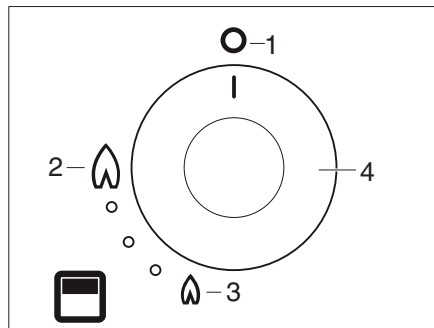

Fig. 119 Control knob of the grill
- ▶ Open the door and push the control knob (Fig. 119,4).
- ▶ Continue pressing the control knob and turn it anti-clockwise to the full rate position (Fig. 119,2).
- ▶ Keep the control knob (Fig. 119,4) pressed for about 10-15 seconds and then release it.
Always make sure the control knob is in the 0 position (Fig. 119,1) when you have finished using the grill.